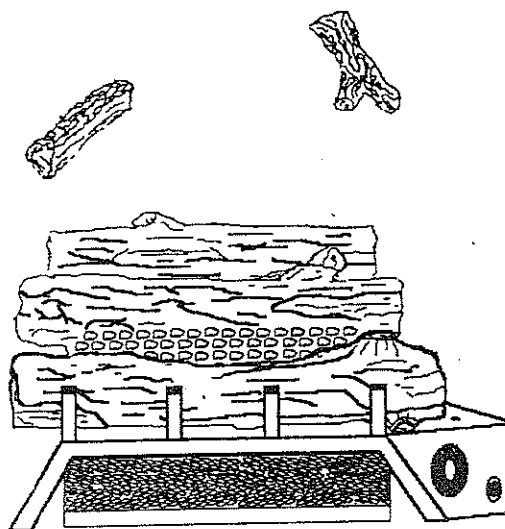
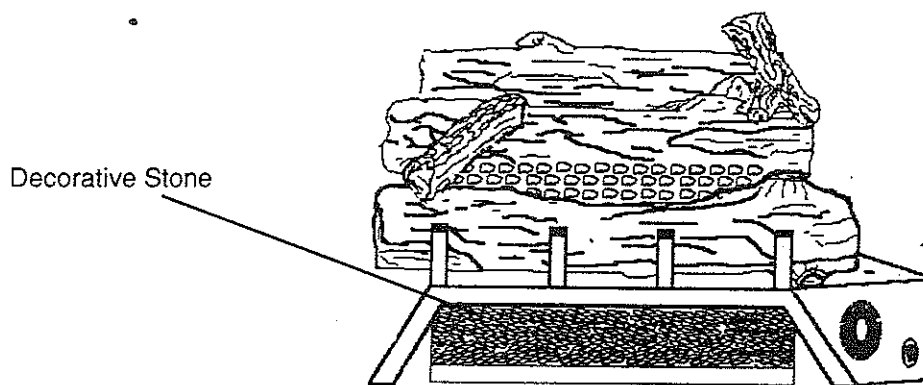

Figure 5
Figure 6
4. Place the top logs as shown in Figure 5 and Figure 6. Incorrect log placement can lead to the production of harmful carbon monoxide while the unit is in operation. Be sure that the logs are correctly placed in the notches provided for them. The middle glow log is the only log that should come in contact with any flame.
The decorative stone from the bag provided should be spread on the bottom tray of the grate. (See Figure 6.) The stone should not be placed on or near the burner. Contact with the burner can cause the production of carbon monoxide.
3. After the pilot flame is established, turn the control knob to the "ON" position. The burner should ignite within four (4) seconds. If the burner does not ignite within four (4) seconds, turn valve to OFF position.
8. Set the back log, the third longest log, in position centered side to side on the back supporting brackets with the thin flat surface of the log on the grate. The top log should be positioned according to the notches left available by the bottom logs. See Figure 5 and 6 on page 6 for top log placement.